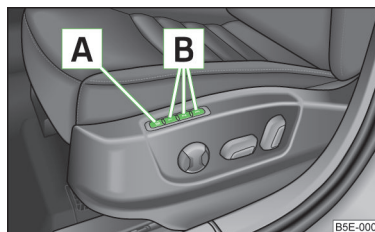

Fig. 50
The memory function for the driver's seat provides the option to store the positions of the driver's seat and the external mirrors. Each of the three memory buttons [B] » Fig. 50 can be assigned a set position.
- Press the button (SET) [A] » Fig. 50.
- Press the required memory button [B] » Fig. 50.
- Tap the desired memory button [B] » Fig. 50 when the ignition is switched off and the driver's door is opened.
- Press and hold any memory button **B** » Fig. 50 on page 74. After the seat has assumed the position stored under this button, at the same time press the button **(Ⓜ)** on the remote control key within 10 seconds.
- Press and hold the **(SET)** button **A** » Fig. 50 on page 74. At the same time, press the button **(Ⓜ)** on the remote control key within 10 seconds.